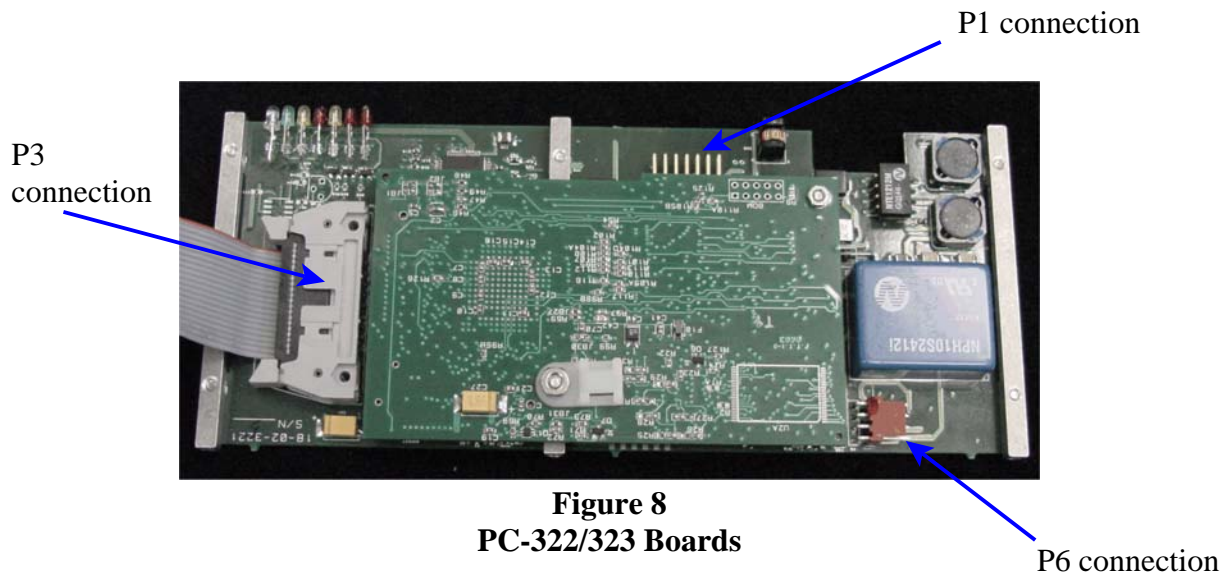

Figure 8
As previously mentioned, the PC-322 and the PC-323 boards will arrive to you completely connected and may be installed very similarly to the installation of the old PC-280 board. (See **Figure 8**.)
- (1) Use the same precautions as previously noted when removing these boards from their protective shipping container; i.e., prevention of electrostatic discharge damage.
- (2) The calibration valve control wires are attached to connector P6 (as shown in **Figure 8**). The routing of these wires will need to be changed during the upgrade. The wires connected to the four pin P6 connector will need to be freed from about one-half of the white spiral wire wrap. This may be accomplished by unwinding approximately half of the nylon spiral